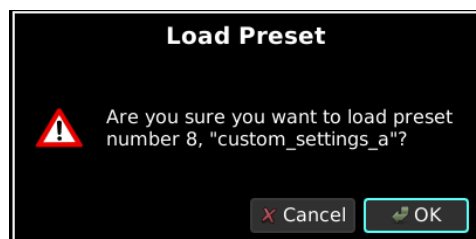

Figure 2-73 Load Preset Screen
3. To load a preset, press the corresponding numerical key on the Remote for at least a half second, select **OK** at the prompt (see Figure 2-73), then press **ENTER**.